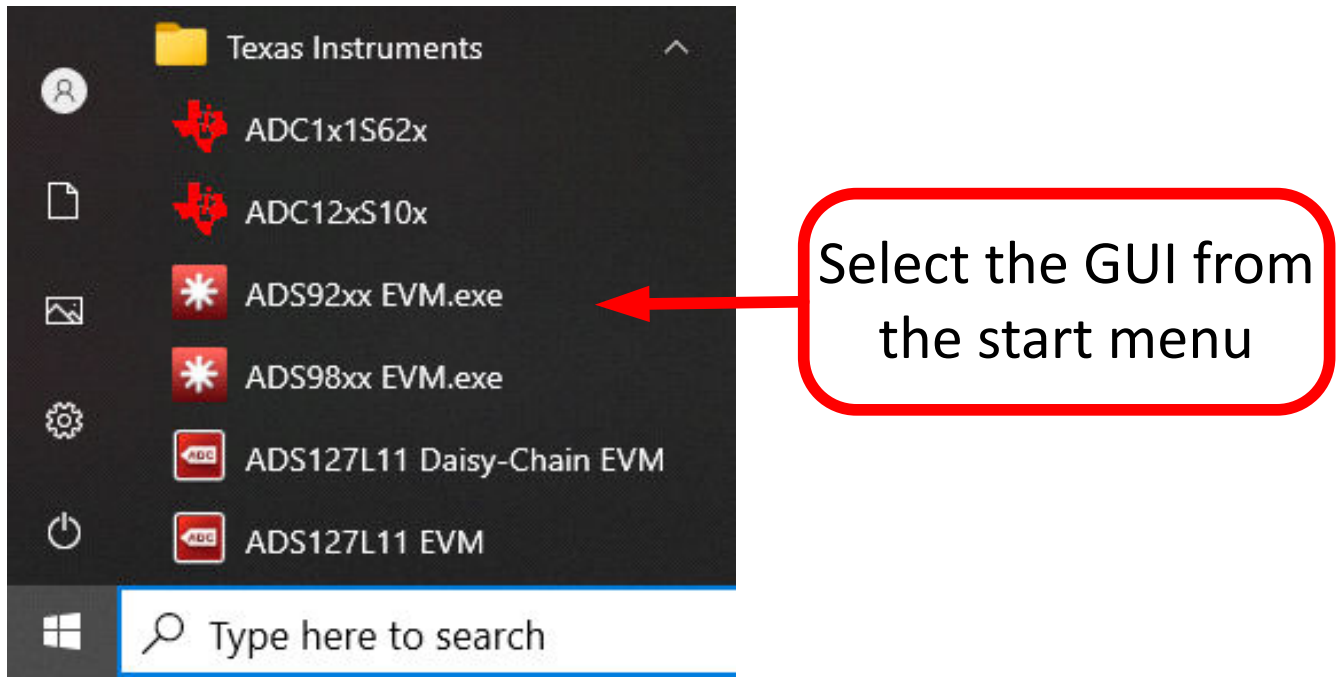

Figure 6-4. Start the Software GUI
6. Start the software GUI as described in Figure 6-4.